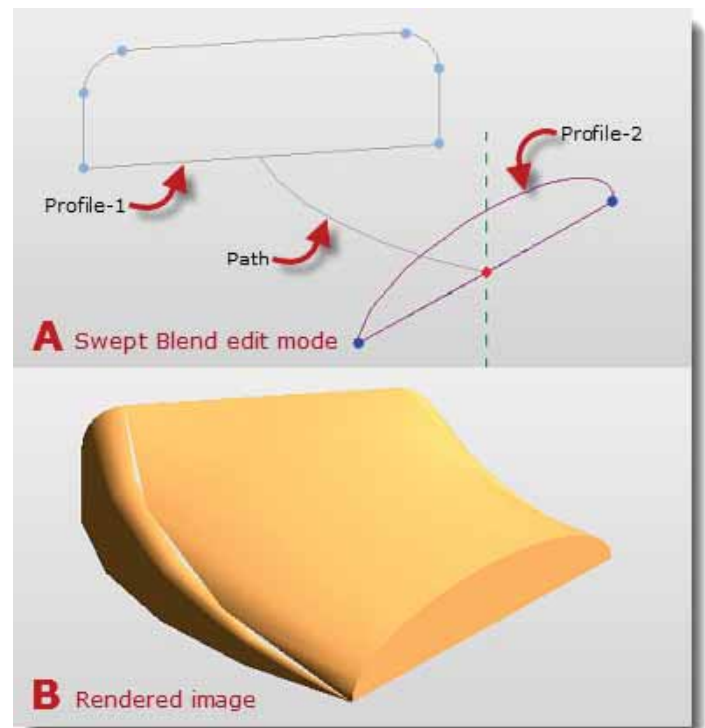
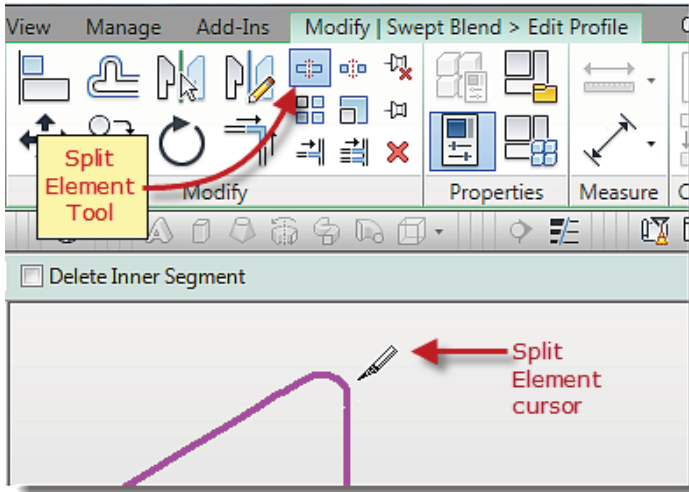

Figure 25 - Swept blend extrusion before adding vertices
Figure 26 - The Split Element tool
In Figure 25 (A), Profile-1 was created with the rectangle tool.
The upper two corners were rounded with the Fillet Arc tool. This overall shape created 6 vertices at the location indicated by the blue dots. Profile-2 was created with a line and a partial ellipse tool. This created just two vertices. As you can see in Figure 25 (B), the number of vertices for both profiles affected the resulting shape. To make a smooth transformation, you have to add more vertices and have the same number of them on both profiles. Fortunately, we can manually add more vertices with the use of the Split Element tool (Modify tab>Modify panel) shown on Figure 26.